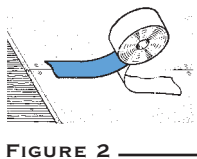

FIGURE 2
3. Remove release liner while pressing flashing firmly along the joint (Figure 2).